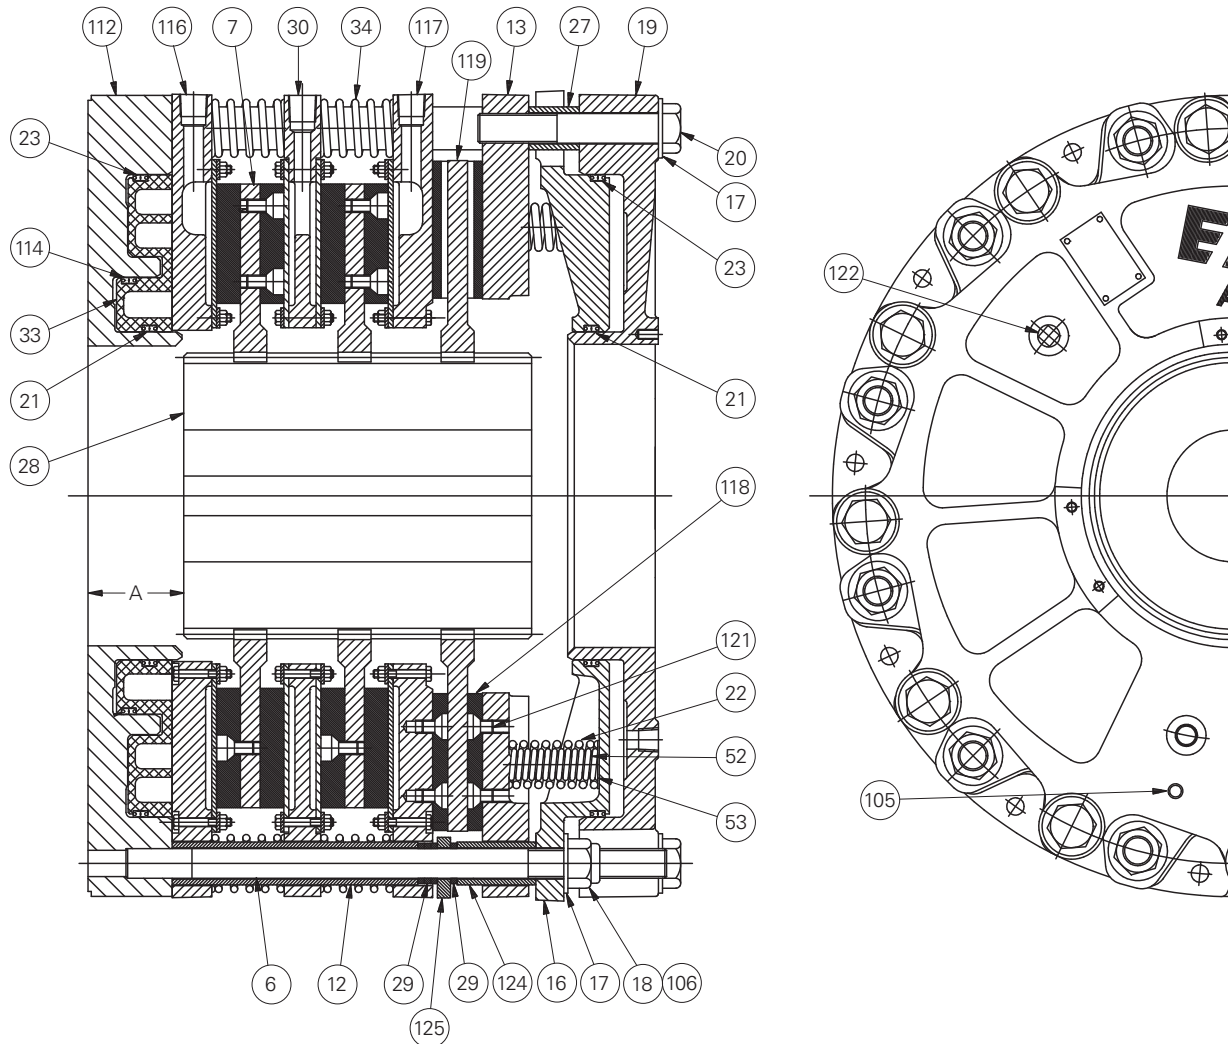

Figure 1
1.1.4 The air applied pistons in the WCSB tensioner/brake assemblies are available in either single or dual piston designs. The WCSB tensioner/brake assemblies dual mounting flange / cylinder (112) and dual piston (33) assembly (112) offers precise tensioning control by dividing the piston/cylinder into inner and outer chambers that are isolated by intermediate seals (114). Also, for light tensioning loads, the inner chamber is used, not the outer chamber. See Figure 1. This provides the ability to improve fine modulation of clamping pressure on the tensioner discs and improved control over our standard single chamber design. For very light tensioning loads, the outer piston can be used solely, with no pressure applied to the inner piston. For the largest tensioning loads, both pistons can be used together. If it is desirable to operate the WCSB tensioner/brake assembly at maximum tensioning load and not utilize the precise tensioning feature, the WCSB tensioner/brake assembly can be ordered without the intermediate piston seal (114).
1.2.1 Referring to Figure 1, the gear (28) is mounted on the shaft which is to be stopped and the tensioner assembly is attached to the machine frame or a reaction bracket.
2.1.4 Refer to the appropriate assembly drawing for the setup dimension between the tensioner mounting surface and the end of the gear (dimension "A" on Figure 1). Gears should be positioned to ensure that when the tensioner is mounted the disc splines will not overhang the end of the gear when components are in both new and worn conditions. The gear is typically bored and keyed for a resulting Class FN2S interference fit for inch shafting and ISO System S7h6 for metric shafting. Contact Airflex Application Engineering for specific recommendations.
2.2.4 Heat the gear uniformly to 250°F (121°C) to expand the bore and ease assembly. Press the gear onto the shaft, making sure that the dimension between the gear and the tensioner mounting surface ("A") is maintained. See Figure 1. Allow the gear to cool.